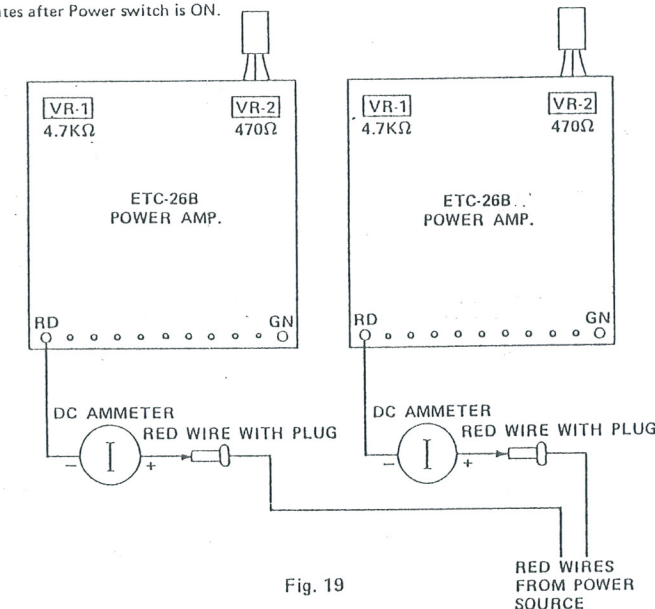

Fig. 19
- B. Remove the plug (red wire) from the No. 1 terminal (+B) of the Power Amplifier Unit (ETC-26B) and connect the DC ammeter to each channel. (See Fig. 19)
- C. For adjusting midpoint voltage, turn the VR-1 (4.7 Kohm) so that voltage reading on the DC voltmeter (V) becomes 0 (zero): V=0. The condition is abnormal if the value exceeds 100 mV.